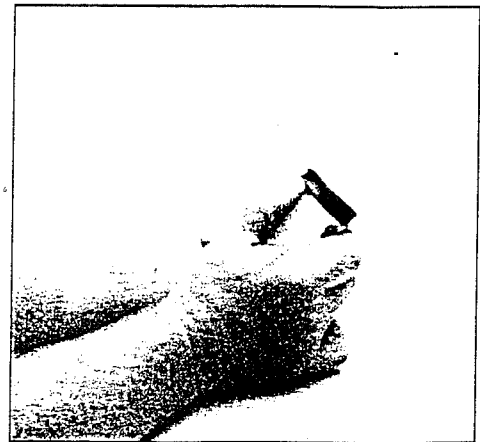

Figure 6
- 6) To replace the Viton® collar, push it off with the top of the piston with your thumb. The new one is simply pushed over the piston crown into the form fitted sides. (See Figure 6).